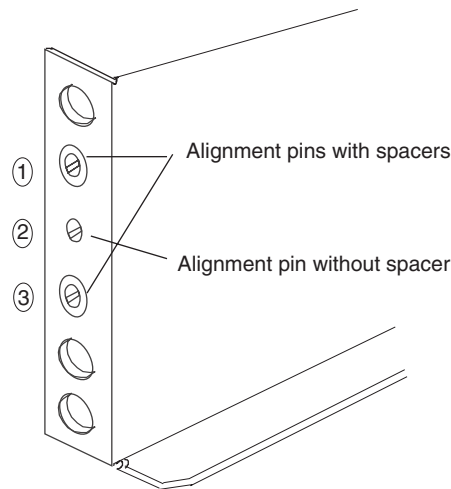

Figure 11. Alignment pins with and without spacers
**Attention:** Both support rails are shipped with three screws and spacers, called *alignment pins*, already installed at the front of each rail. They have been inserted in the front of each support rail as guides to indicate where *not* to use M6 screws when you attach the front of the support rail to the rack. See Figure 11.